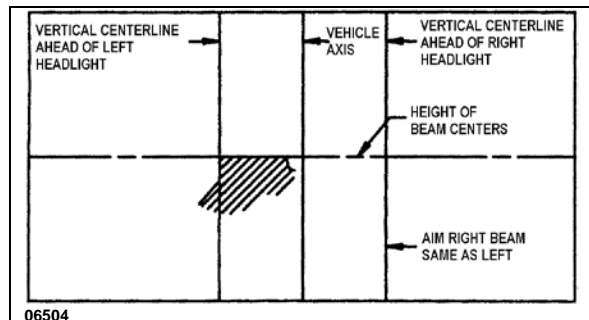

FIGURE 49: LOWER BEAM HIGH-INTENSITY ZONE PROPER LOCATION ON SCREEN
- Low beam headlights are aimed so that the top edge (the cutoff) of the high-intensity zone is at the vertical location as per Table 1 and the left edge of the high-intensity zone is at the vertical centerline of the headlight (Figure 49).